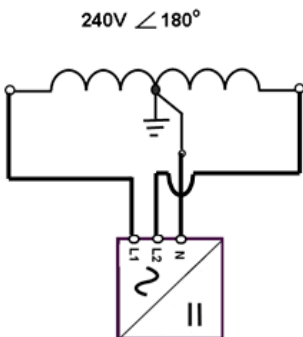

Figure 14: 240V / 120V Split Phase AC Grid
1. Mount the mounting plate to the wall with at least 4 screws and anchors (\varnothing 6mm). With 4 screws use 4 holes A or 4 holes B (see Figure 14). You can use the mounting plate as a template for marking the positions of the boreholes.